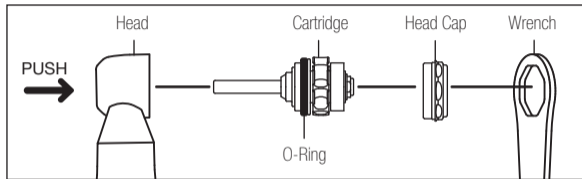

Fig. 12
- Make sure that the O-ring (Fig. 12) is correctly located on the cartridge.